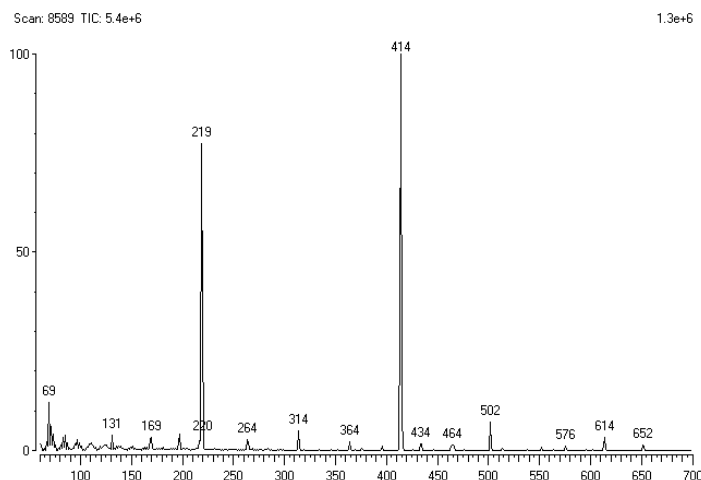

Figure 1-30 Positive Ion Calibration Gas CI Spectrum (2.5 mL/min Methane)
- c. Verify that the **Calibration Gas Spectrum** is similar to Figure 1-30 Positive Ion Calibration Gas CI Spectrum (2.5 mL/min Methane).